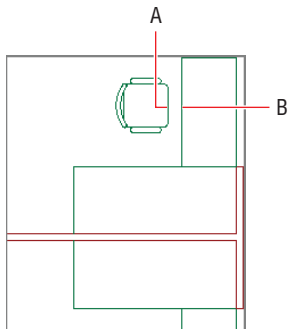

FIGURE 4.11 Selecting the base point for a move
5. Right-click the Object Snap toggle in the status bar, and choose Midpoint from the context menu if it is not already selected. Click the base point at the midpoint of the front of the chair (point A in Figure 4.11).
6. Click the second point, (B in Figure 4.11). The chair is moved precisely to the midpoint of the desk edge.
8. Click the Copy tool in the Modify panel. Select the chair you just moved and press Enter. Select the midpoint of the desk (point B in Figure 4.11) as the base point, and then click the midpoint of the corresponding mirror image desk below in the same furniture group as the second point. Press Enter to end the COPY command.